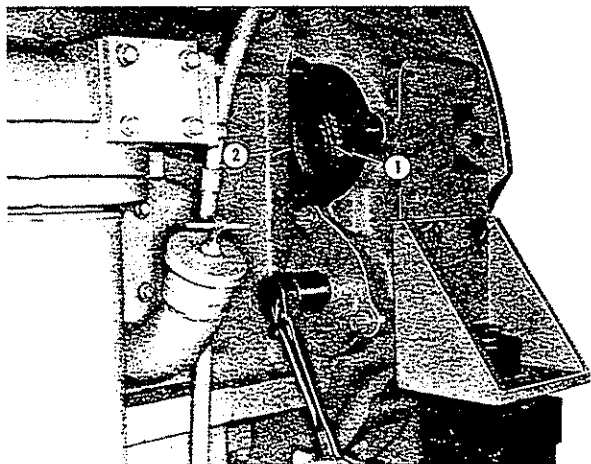

Fig. 2-61, (K21919). Engine barring device
3. When barring the engine from the left bank at the flywheel housing "C" VS timing marks on the flywheel (1, Fig. 2-61) must align with the scribe